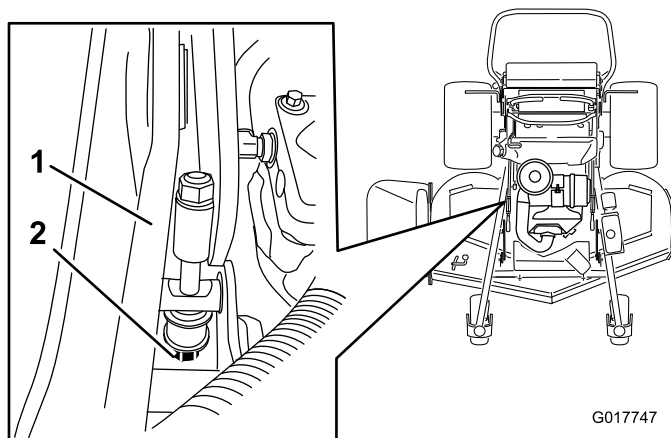

Figure 97
5. If it does not measure correctly, locate the height-of-cut rod on the right side of the machine (Figure 97).
6. Adjust the adjustment bolt until the blade tips match 7.6 cm (3 inches) (Figure 97).